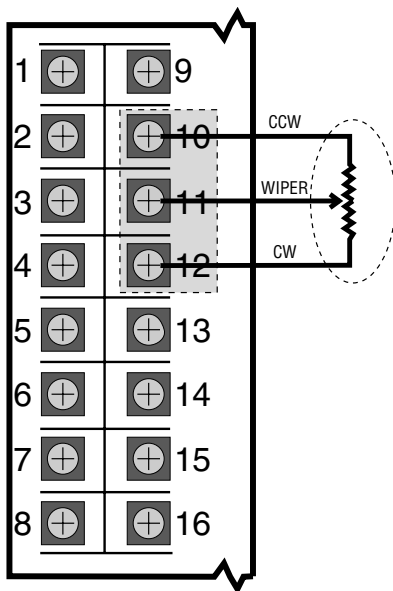

Figure A4.10
2. Attach a 100 ohms to 1000 ohms potentiometer to terminals 10, 11 and 12 as shown in Figure A4.10.